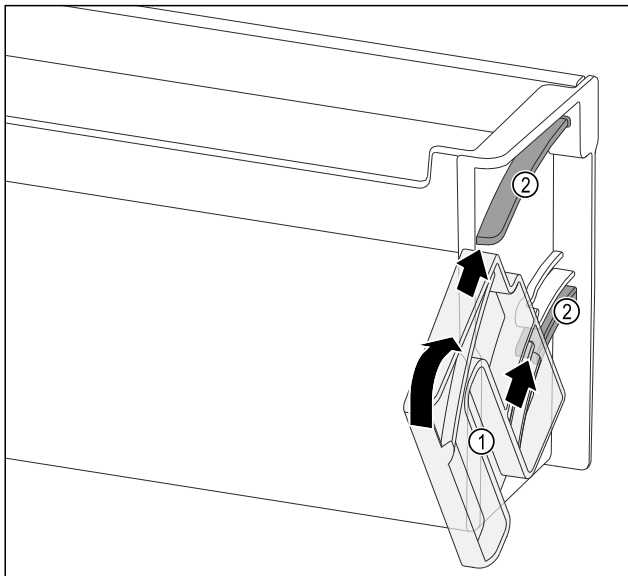

Fig. 114
- ▶ Position the swivel unit Fig. 114 (1) so that the recesses are exactly opposite the guide channels Fig. 114 (2) of the door rack.
- ▶ Turn the swivel unit Fig. 114 (1) in the specified direction.